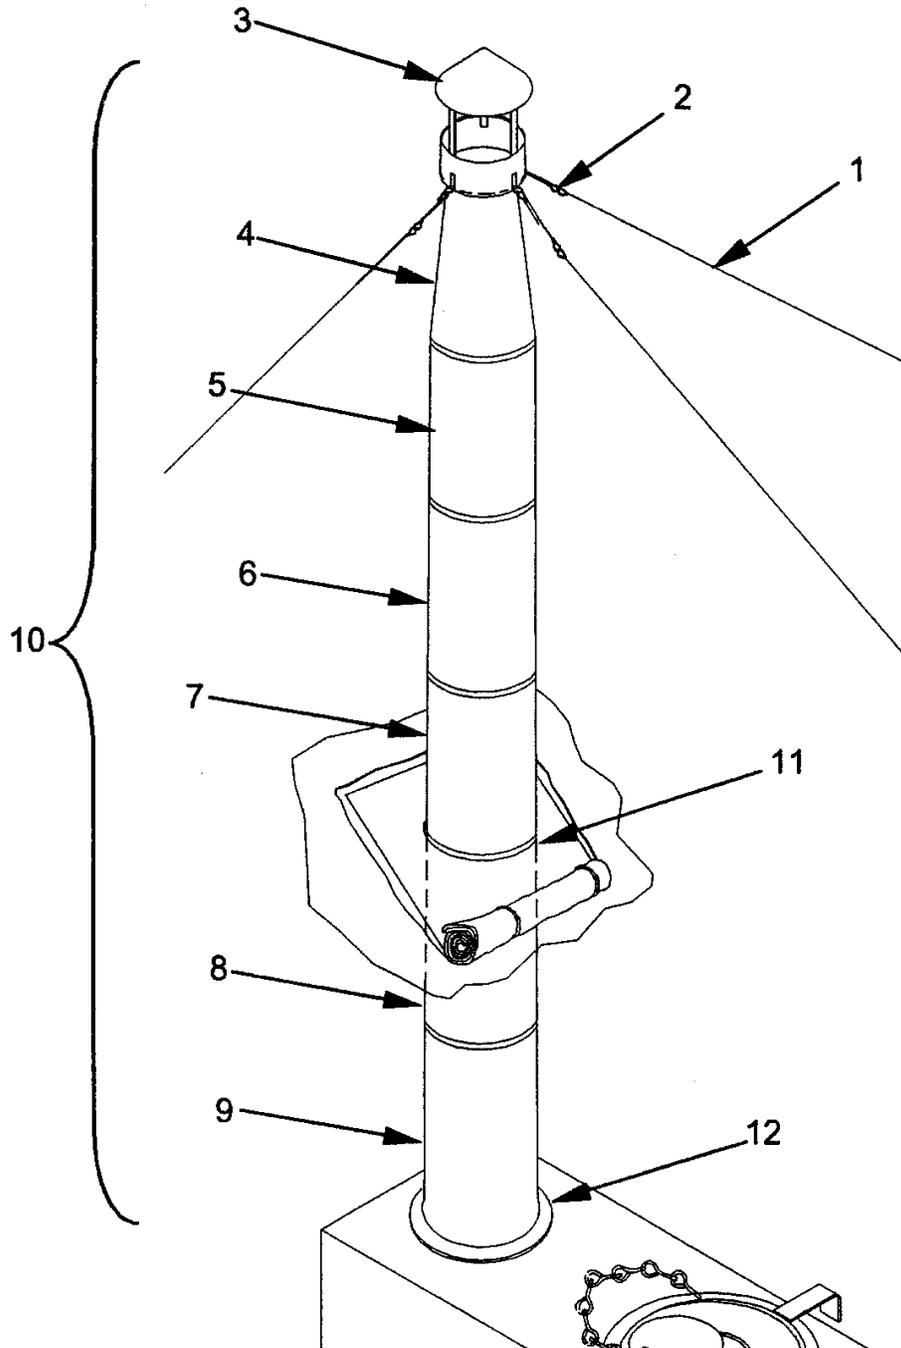

Figure 5
b. (See Figure 5) Tie one end of each shelter line (1) to each wire rope (2) on stack cap (3). Set this assembly aside.